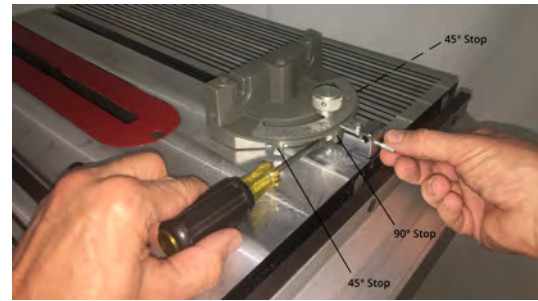

Figure B-85
- 54. Use a small screwdriver to back out the 90° stop screw 2 to 3 turns, as shown in Figure B-85.